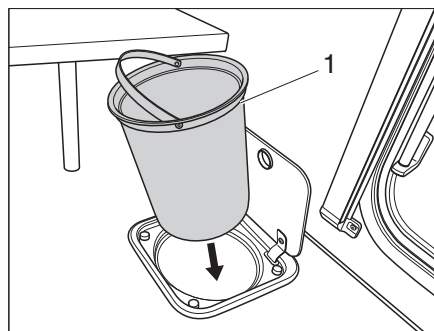

Fig. 149 Waste bin in kitchen
- Remove the waste bin (Fig. 149,1) using the handle and empty in accordance with the applicable regulations.